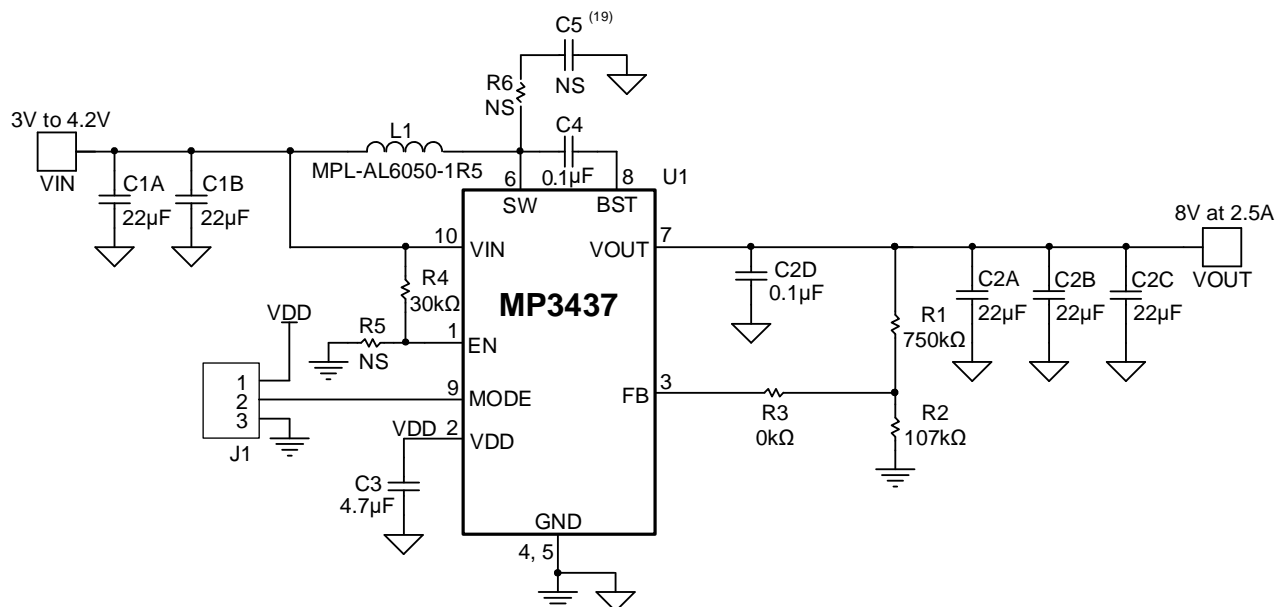

Figure 5: QFN Package Typical Application Circuit
Figure 5 and Figure 6 show the detailed application schematics. For the typical performance and circuit waveforms, see the Typical Performance Characteristics section on page 10. For more device applications, refer to the related evaluation board datasheet.
- ⁽¹⁸⁾ The recommended PCB layout is based on the typical application circuits (see Figure 5 and Figure 6 on page 23).